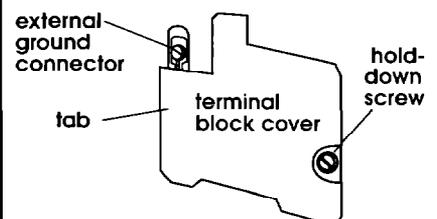

Figure 11
7. Insert tab of terminal block cover into slot of the dryer rear panel (see Figure 11). Secure cover with hold-down screw.